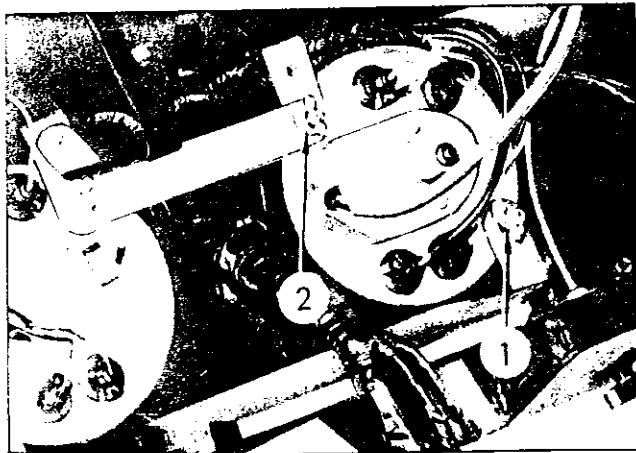

Fig. BE-14 Removing speedometer
Loosen the wing nuts on the meter brackets [ ① and ② in Figure BE-14 ] on the upper and lower sides of the reverse side of the speedometer, and withdraw the speedometer from the instrument panel.